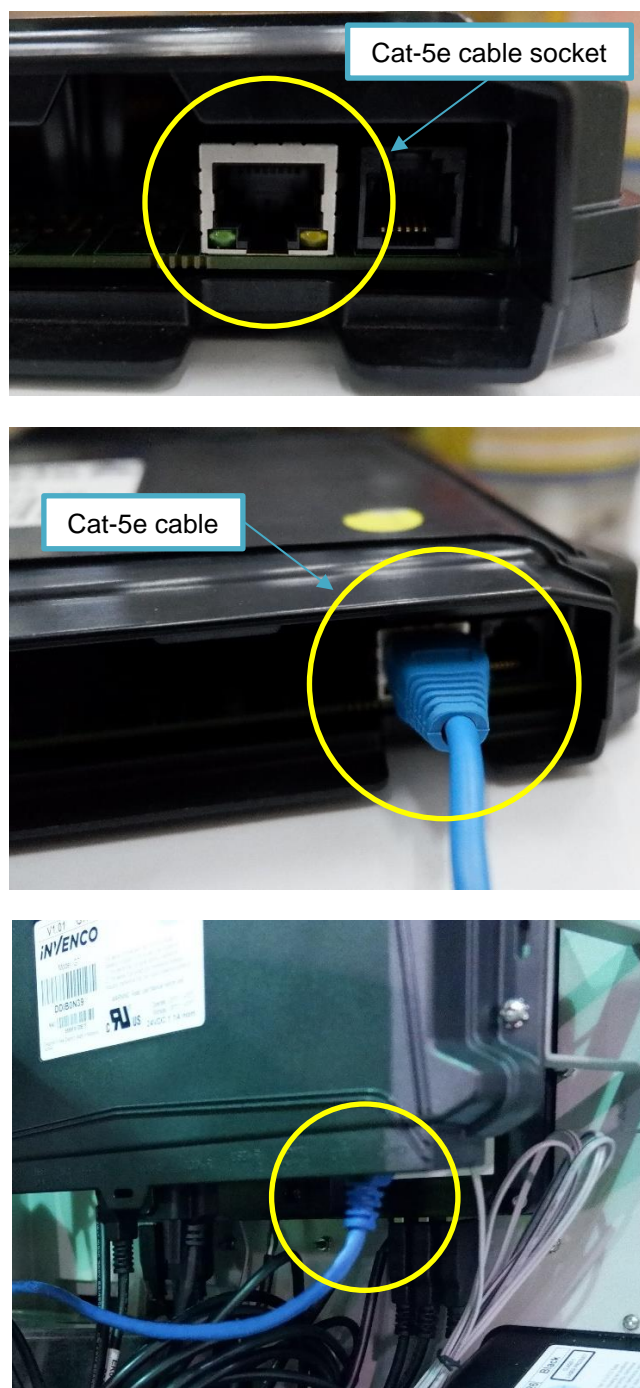

Fig 4.14 – Connecting the Cat-5e cable.
11. Connect the Blue Cat-5e ethernet cable that is located inside the pump into the ethernet socket on the ether APC module. (Fig 4.14)